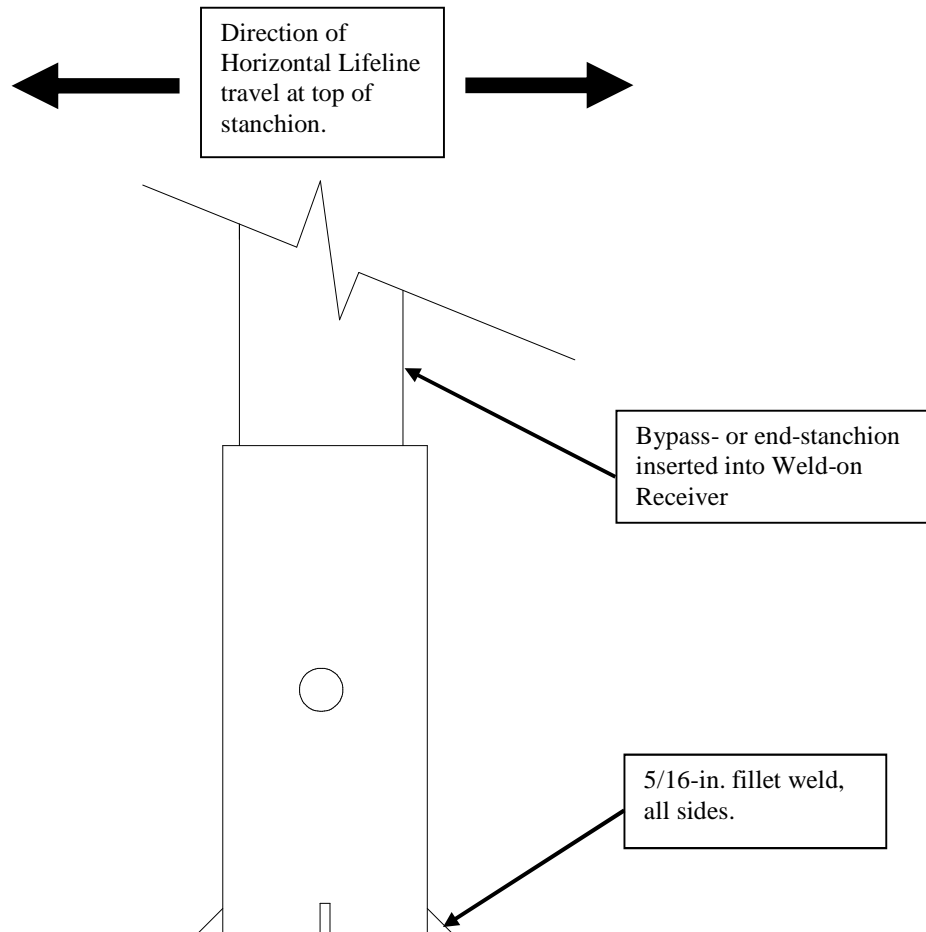

Figure 1 – Installation of the Weld-on Receiver
| FIGURE 1 – INSTALLATION OF THE WELD-ON RECEIVER..... | 6 |
3. Weld the Receiver into place with the bolt hole in line (parallel) with the horizontal lifeline (see Figure 1). Weld with a 5/16-in. fillet weld using 70,000 PSI minimum strength MIG wire or electrode. Care should be taken to leave the small notch at the bottom of the tube open. This is the drainage hole, used to keep water from building up and corroding the inside of the tube.